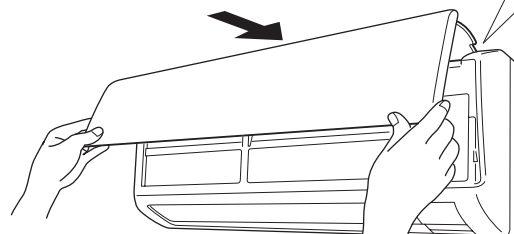
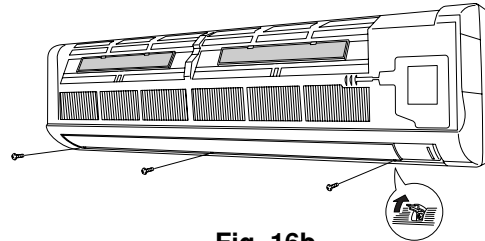

Fig. 19a
Fig. 16b
- (2) Remove the 3 screws. (Fig. 16b)
- (5) Affix the grille with the 3 previously removed screws. (Fig. 16b)
- (6) Install the air intake grille.
- (a) Allow the edge of the air intake grille to slide into the top of the indoor unit, and then insert it all the way inside. (Fig. 19a)